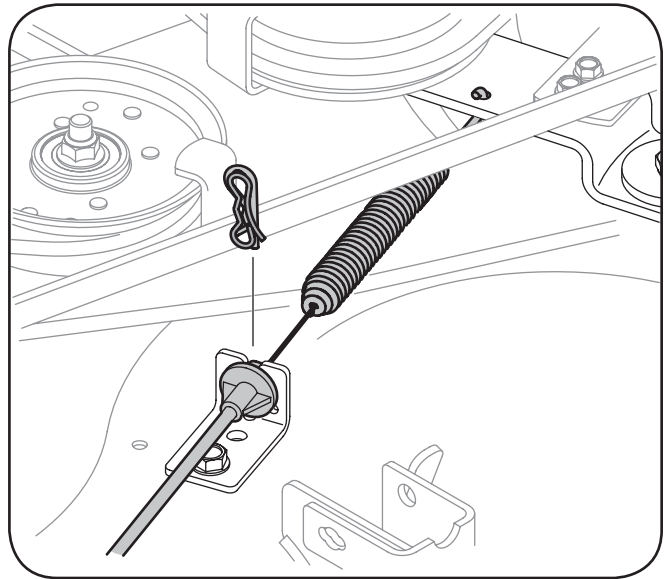

Figure 7-5
9. Carefully remove the PTO cable from the rear of the cutting deck by removing the hair pin clip which secures it. Remove the spring from the deck idler bracket. See Fig. 7-5